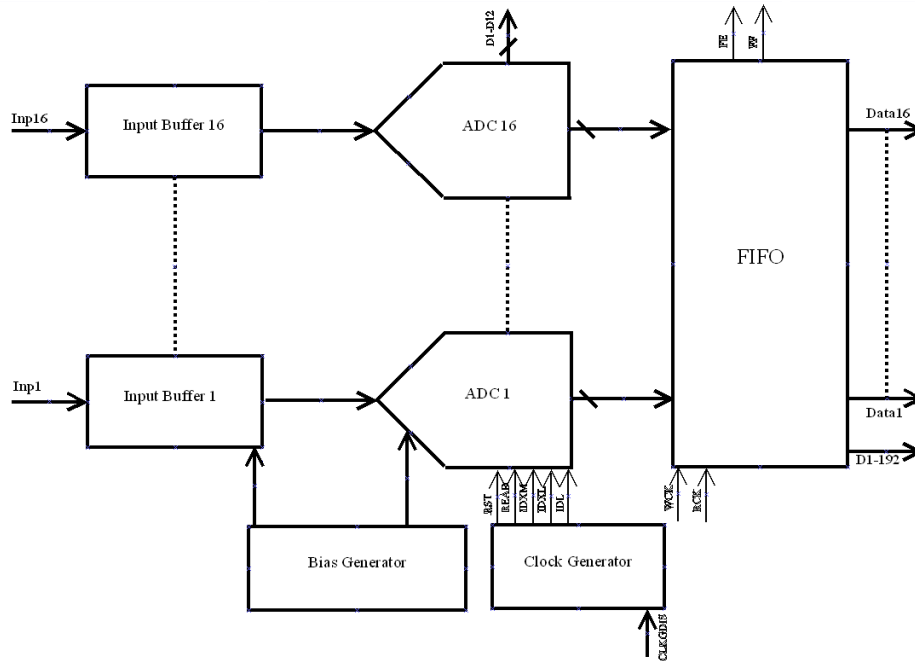
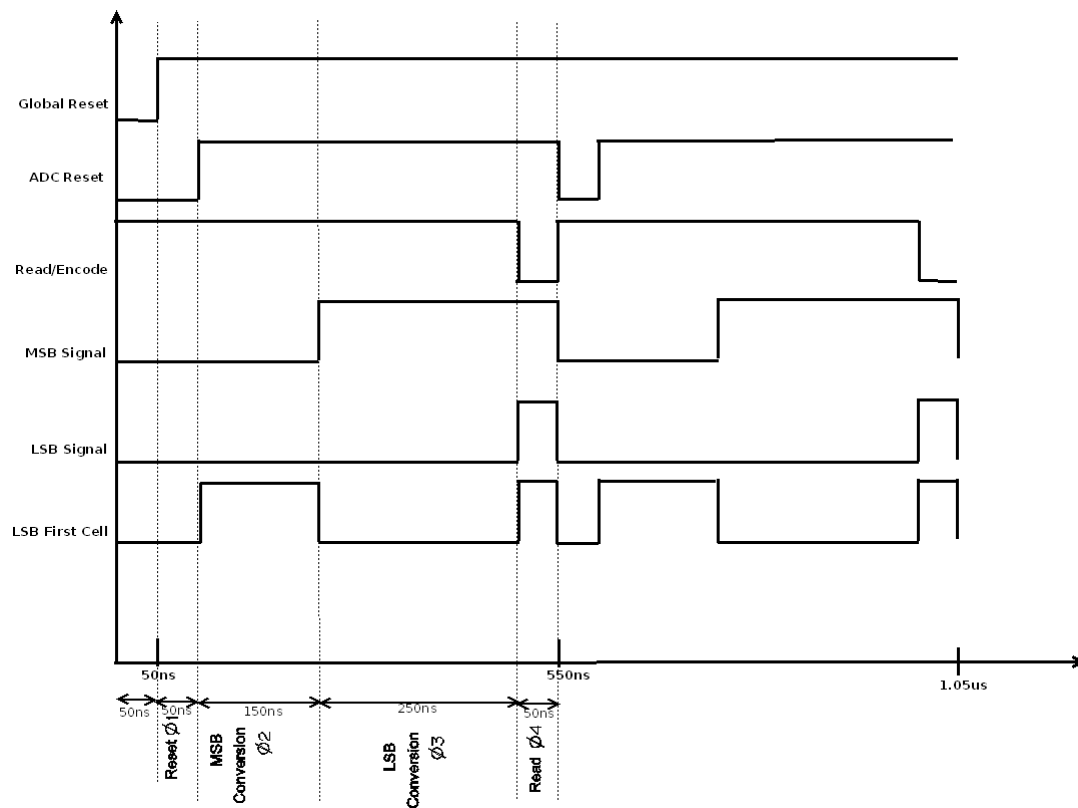

Figure 2. Functional Block Diagram
Figure 3. ADC Timing Diagram.
- Figure 2 shows the functional block diagram of the ASIC and Figure 3 shows the timing diagram of the ADC. **Error! Reference source not found.** shows the clocks to the FIFO. The MSB clock of the ADC is shared with the FIFO as the write clock. **Error! Reference source not found.** illustrates the clocks input to the FIFO to enable reading out data.